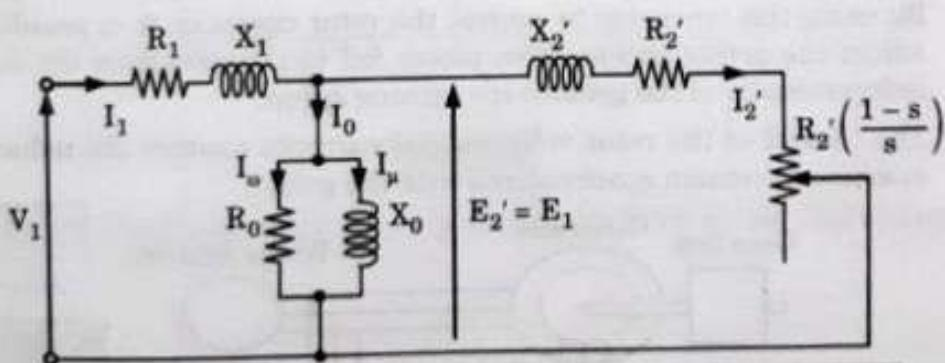

Fig. 1.6.2. Equivalent circuit of self excited induction generator.
B. Equivalent circuit : In Fig. 1.6.2 shows the equivalent circuit of self excited induction generator.